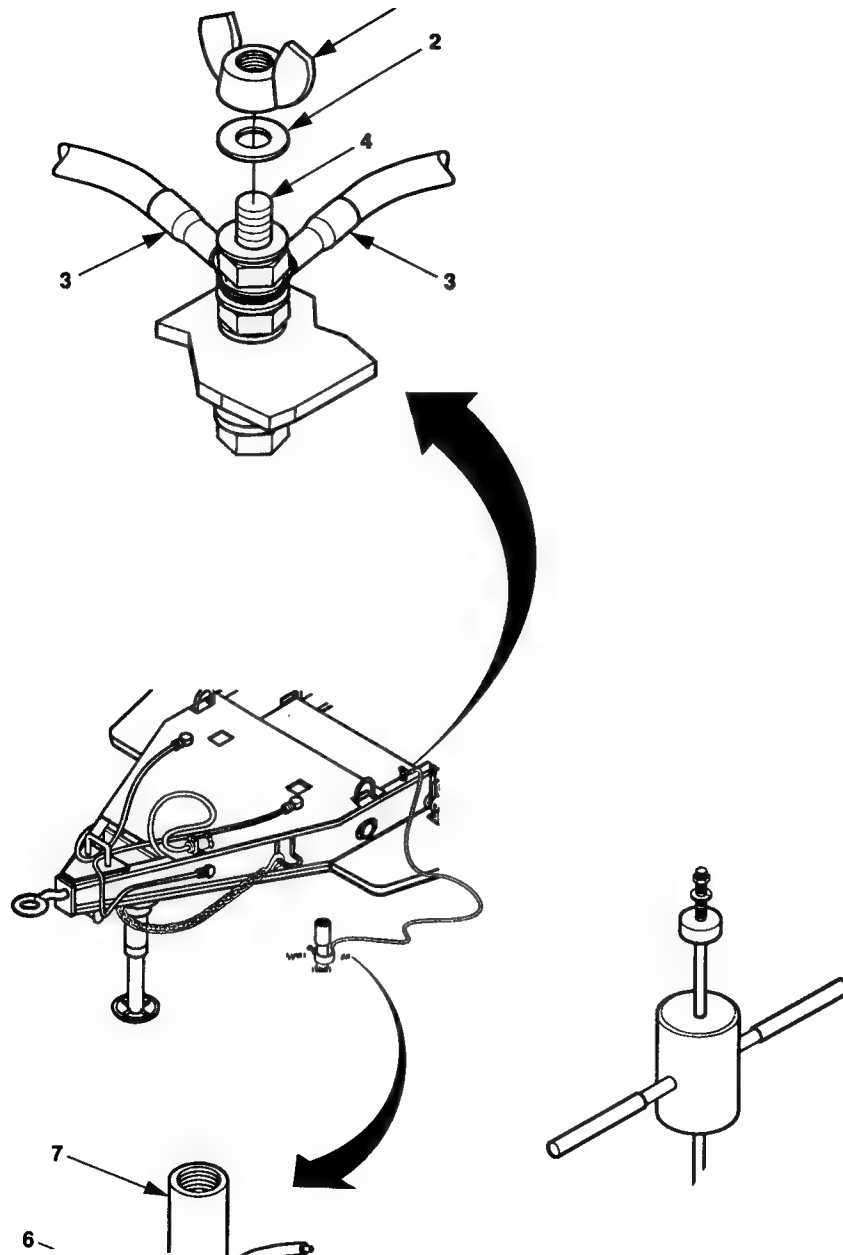

Figure 2-16. Ground Rod Removal.
- (1) Loosen clamp screw (6, figure 2-16) and remove ground cable.
- (2) Remove wing nut (1), washer (2), and terminal (3) from ground stud (4). Roll up ground cable and store in accessory box.
- (3) Install washer (2) and wing nut (1) removed in step a.(2) on ground stud (4).
- (4) Remove coupler (7) and ground cable clamp (5) from ground rod section (8).
- (5) Install coupler (7) on ground rod section (8).